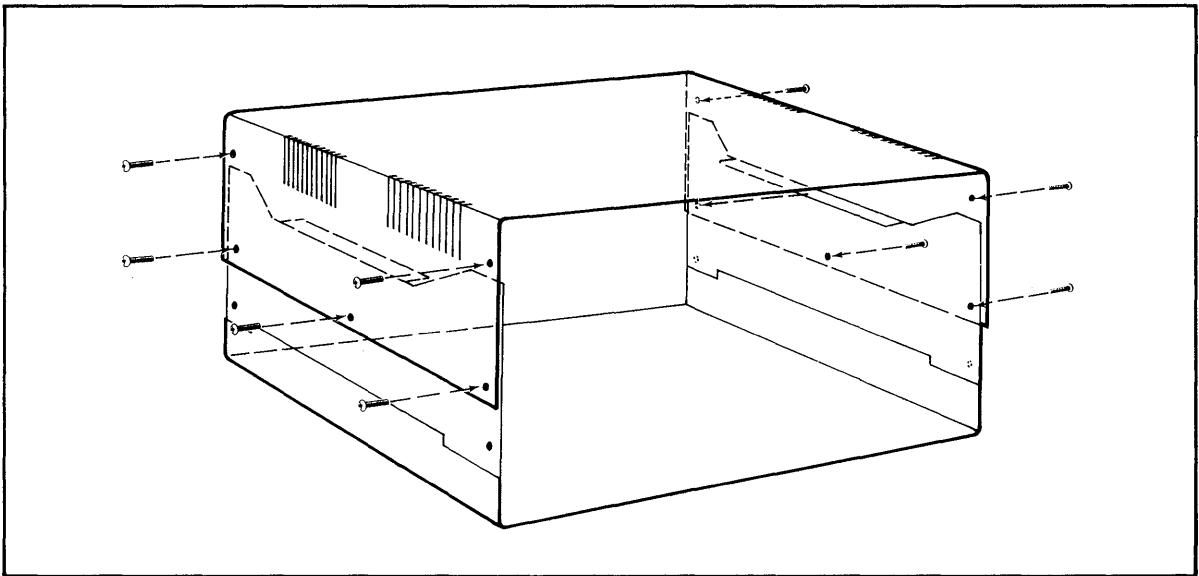

Figure 2-3 Location of Screws in TS 816/40 Case
1. Using a Phillips screwdriver, remove the screws that secure the top cover. There are five screws on each upper side of the system and two screws on each lower side. (Refer to Figure 2-3.) To lift off the cover, pull the front panel forward and then slide the cover away from the rest of the system.